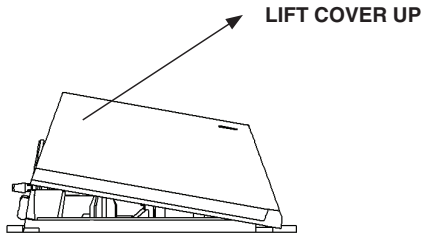

Figure 4: Lifting Cover
- c. Lift the cover up (Figure 4).